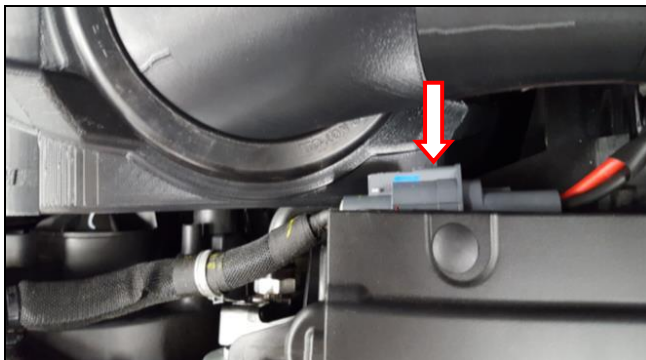
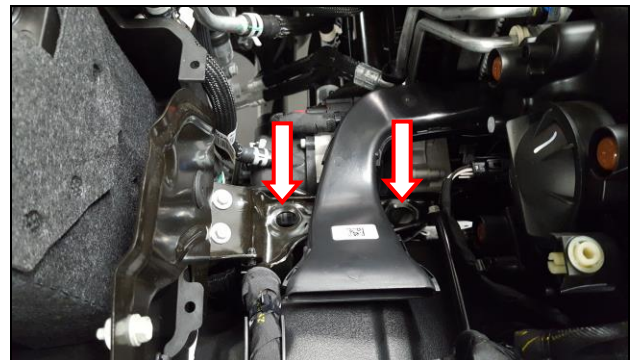

Figure 4
Figure 5
10. While aligning the seal on the OE scoop against the fender, install the scoop and housing assembly into the vehicle (if necessary, disconnect gray wiring connector during installation to avoid damage to connector or housing **Figure 4**). The INTECH housing studs should be seated in to the factory grommets on the housing mount (**Figure 5**).